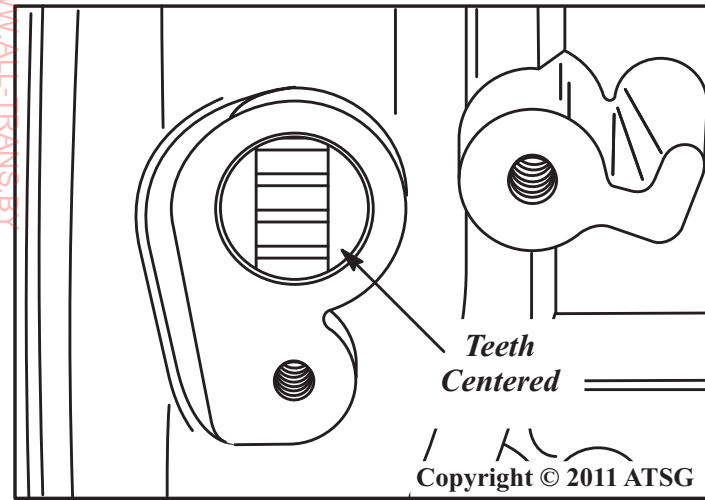

Figure 151
25. Install the completed input housing and bearings into transmission case, as shown in Figure 149, by rotating back and forth until fully seated. **Note: The input housing is fully seated when the teeth on input clutch hub are centered in the input speed sensor bore (See Figure 151).**